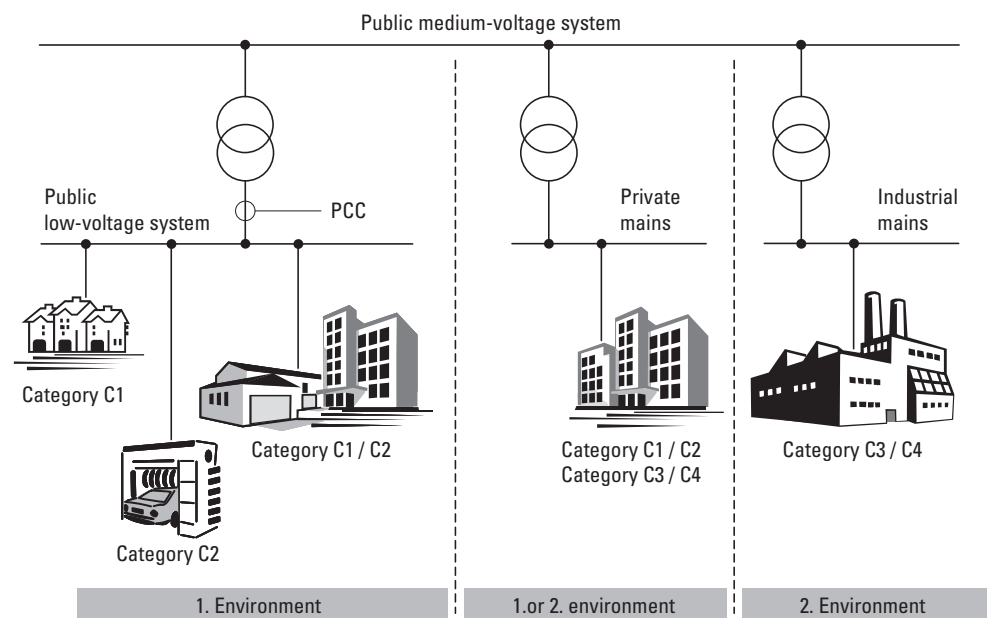

Figure 11: EMC environment and categories
A declaration of conformity (CE) refers always to a “typical” power magnet system (PDS). The responsibility to comply with the legally stipulated limit values and thus the provision of electromagnetic compatibility is ultimately the responsibility of the end user or system operator. Measures must be taken to remove or minimize emission in the associated environment (→ Figure 11). He must also utilize means to increase the interference immunity of the devices of the system.